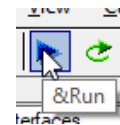

Figure 71. Running the VisualAnalog Canvas
- ▶ Click **Run** in **VisualAnalog** (see Figure 71).